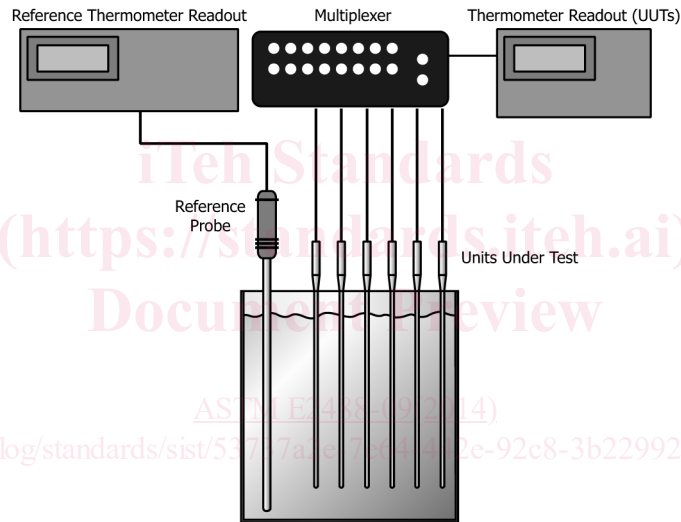

FIG. 4 Block Diagram of Comparison Calibration Setup
6.1 *Bath System*—A controlled temperature fluid bath system will incorporate most, if not all, of the following components: a fluid medium; a mechanical design that provides for containment and circulation of the fluid; a monitoring thermometer, a temperature control unit; and, elements that provide for heating, cooling or both. There are many commercially available controlled temperature baths. These baths operate from as low as -100°C to as high as $+550^{\circ}\text{C}$; although no single bath system is capable of operation over that entire range. The design of each individual bath will create practical limits for the working temperature range. These limits are determined by considering the minimum and maximum temperature ratings for each of the components in the bath system. The user is advised to carefully review the bath manufacturer's literature to be certain that the bath system is suitable for the intended calibration temperature range and the types of thermometers to be tested. Figs. 1-4 represent various designs of controlled temperature fluid bath systems. Fig. 4 shows a block diagram of a comparison calibration setup.